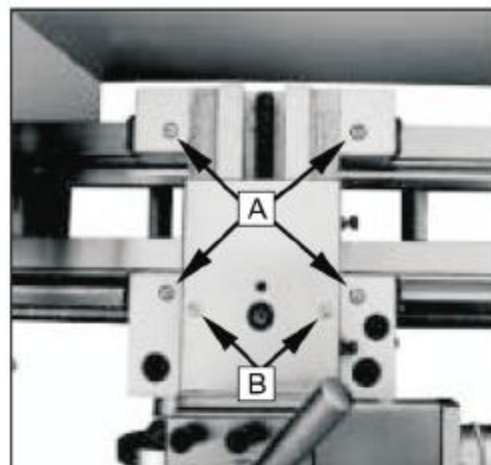

Fig. 36
2. Loosen knurled screw (B, Fig.36) and open the sliding fingers. (C, Fig.31) until the steady rest can be moved with its finger around the workpiece. Secure the steady rest in position.
Lubricate Four oil ports (A, Fig. 36) with 20W machine oil once daily.
Lubricate two oil ports (B, Fig. 36) with 20W machine oil once daily.